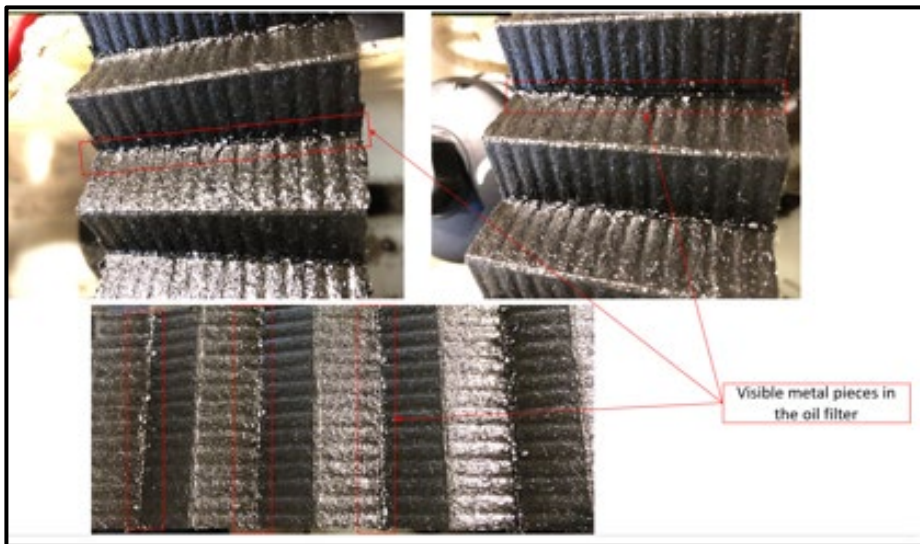

FIGURE 2
****Oil filter cartridge check** – Remove the cartridge and look in the outer passages with a flashlight for obvious large metallic debris, If there is no obvious debris, peel the oil filter cartridge and thoroughly check for debris (Ref Figure 2) .
6. Cut the Oil Filter cartridge and inspect for presence of any broken metal pieces. See Figure 2.